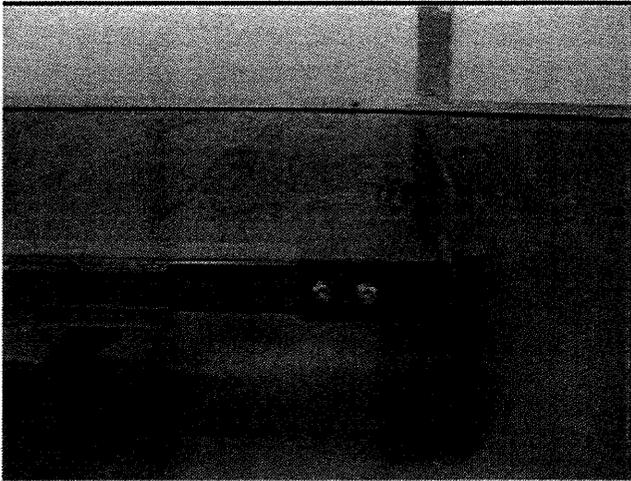

Figure 5
2. Install two 5/8" x 4" grade 8 bolts per side (four total) and washers (one on each side of the crosstube). See Figure 5.